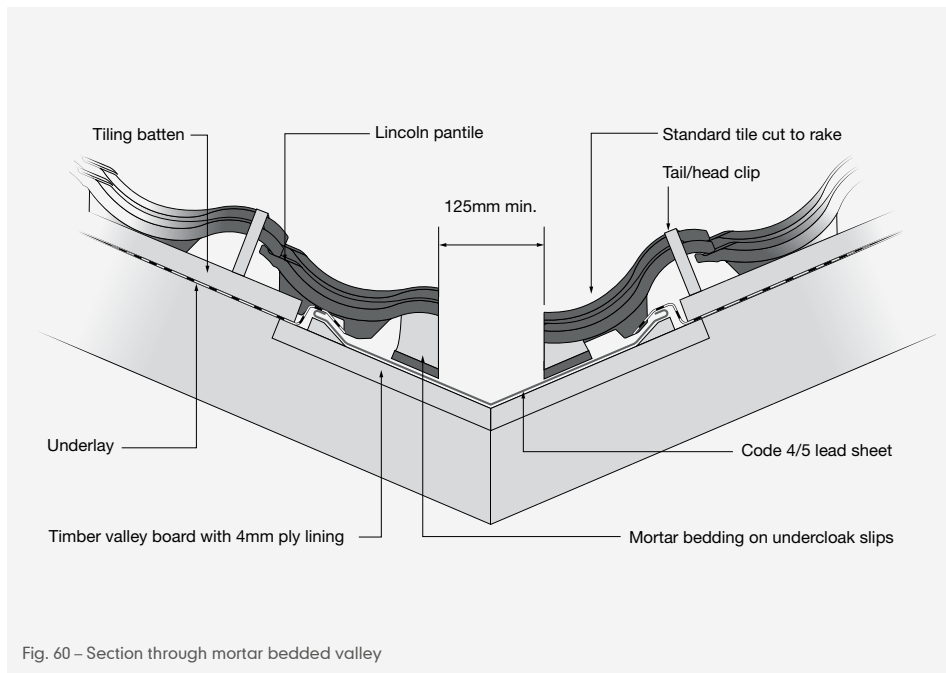

Fig. 60 – Section through mortar bedded valley
- 5 All tiles adjacent to the valley should be twice fixed and any small cut pieces of tile should be mechanically fixed using Marley head clips or retention clips (Fig. 60).